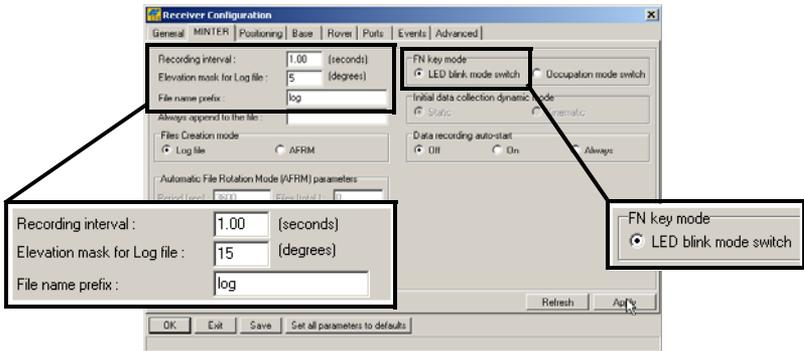

Figure 3-3. Configure MINTER for Static Data Recording
- Click the **MINTER** tab, configure the following settings (Table 3-1), and then click **Apply** (Figure 3-3).